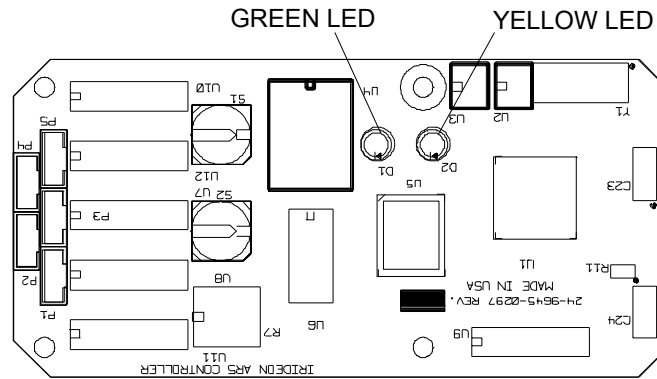

Figure 5.1 - Composer Control PCB
1. Observe LED's control PCB on electronics plate. See Figure 5.1 - **Composer** or **Composer Lite** Control PCB.